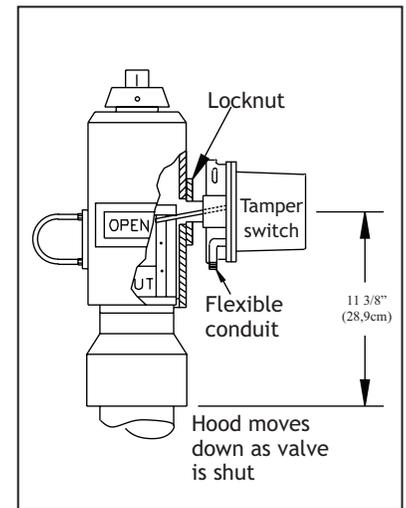

Figure 5: Clow Valve Installation
- Option B: Refer to Figure 5. If the target is stationary and a hood arrangement is used, such as is shown in Fig. 5, the hood must be drilled with a 23/32" drill and tapped with a 1/2" NPT. The center line of this hole should be 1/8" below the portion of target assembly that strikes the PCVS trip rod. The 11 3/8" dimension shown is for a Clow Valve. Flexible conduit must be used for this type of installation.